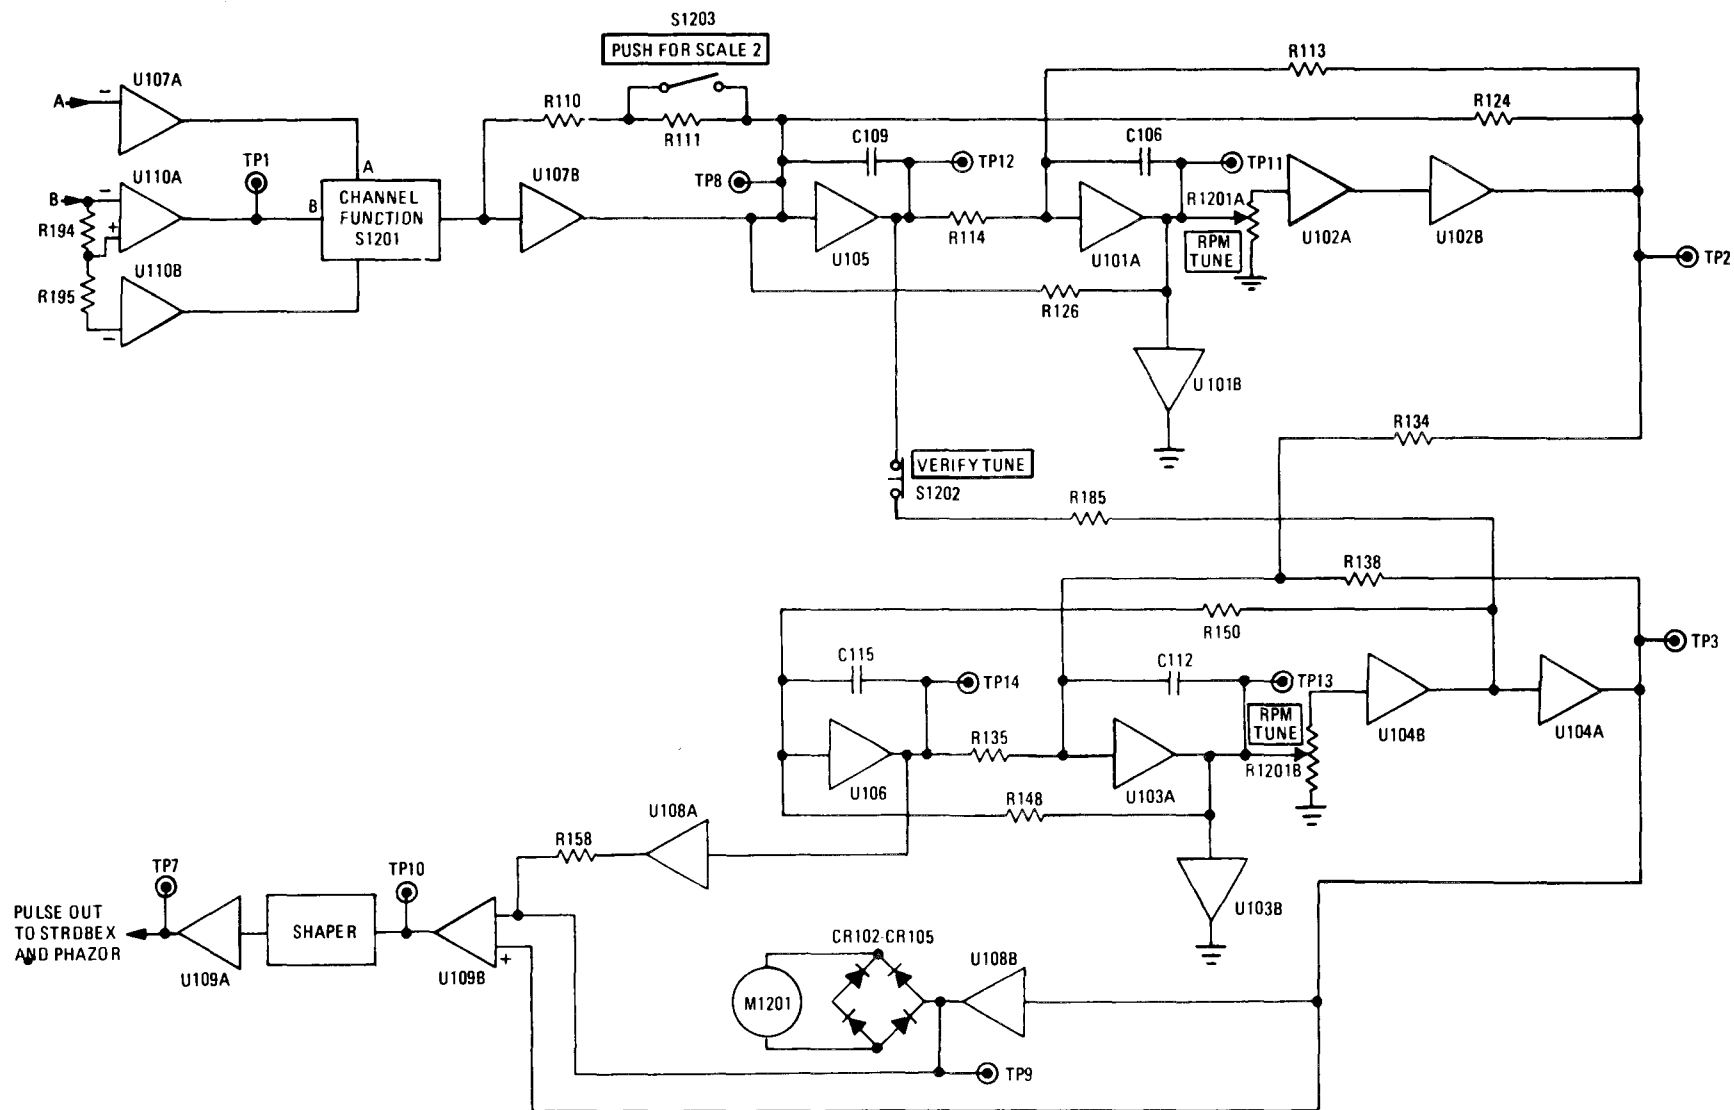

Figure 4-1. Balancer Simplified Diagram
**4-5. Balancer section of Balancer.** The electronics for the Balancer (fig. 4-1 and FO-1) are contained on the Balancer Circuit Card Assembly C4146.